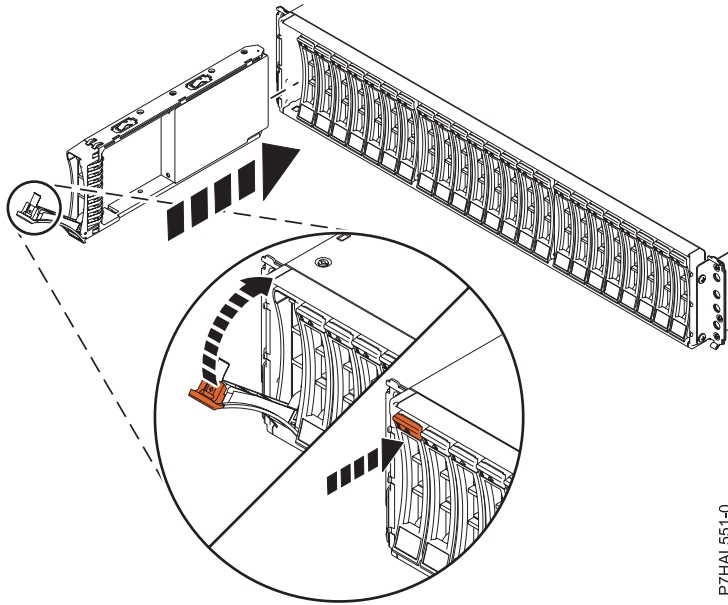

Figure 34. Installing a disk drive in the disk drive enclosure
3. With the handle in the unlocked position, support the bottom of the disk drive as you align it with the guide rails in the disk drive enclosure. For an example, see Figure 34 on page 33.